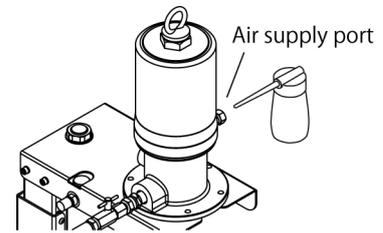

Fig.17
- 2) Inject a few drops of lubricating oil (approx. 0.5mL) into the air supply port. (Fig.17)